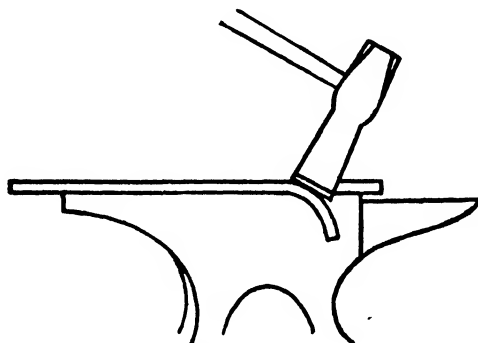

FIG. 15
8. If the cut is to be made in flat stock or for a considerable length in sheet stock, lay the portion where the cut is to be made flat on the anvil and make the cut two-thirds of the way thru the stock. Place the nearly finished cut so that it lies along the edge of the anvil. Place the cutter on the far end of the cut with the handle elevated to about forty-five degrees, the lower corner of the cutter extending beyond the stock and resting against the side of the anvil, thus forming a shear. Cut along the edge of the anvil until the cut is finished. Fig. 15.